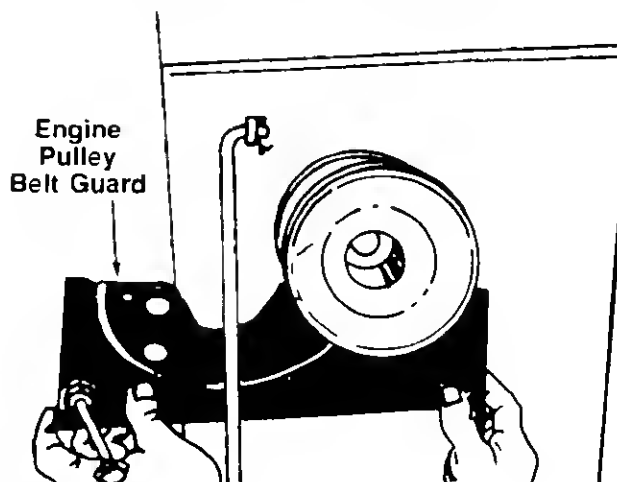

FIGURE 30.
6. Remove the engine pulley belt guard by slipping it back and to the right. See figure 30.